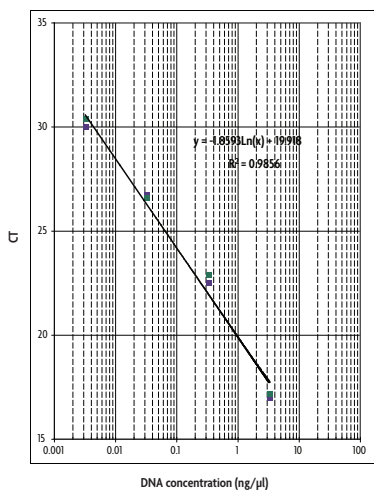

Figure 4: Example standard curve linear regression plot.
5. Plot CT versus log DNA concentration. See Figure 4 on page 24. The slope of the standard curve can be used to determine primer efficiency in the equation on page 21.